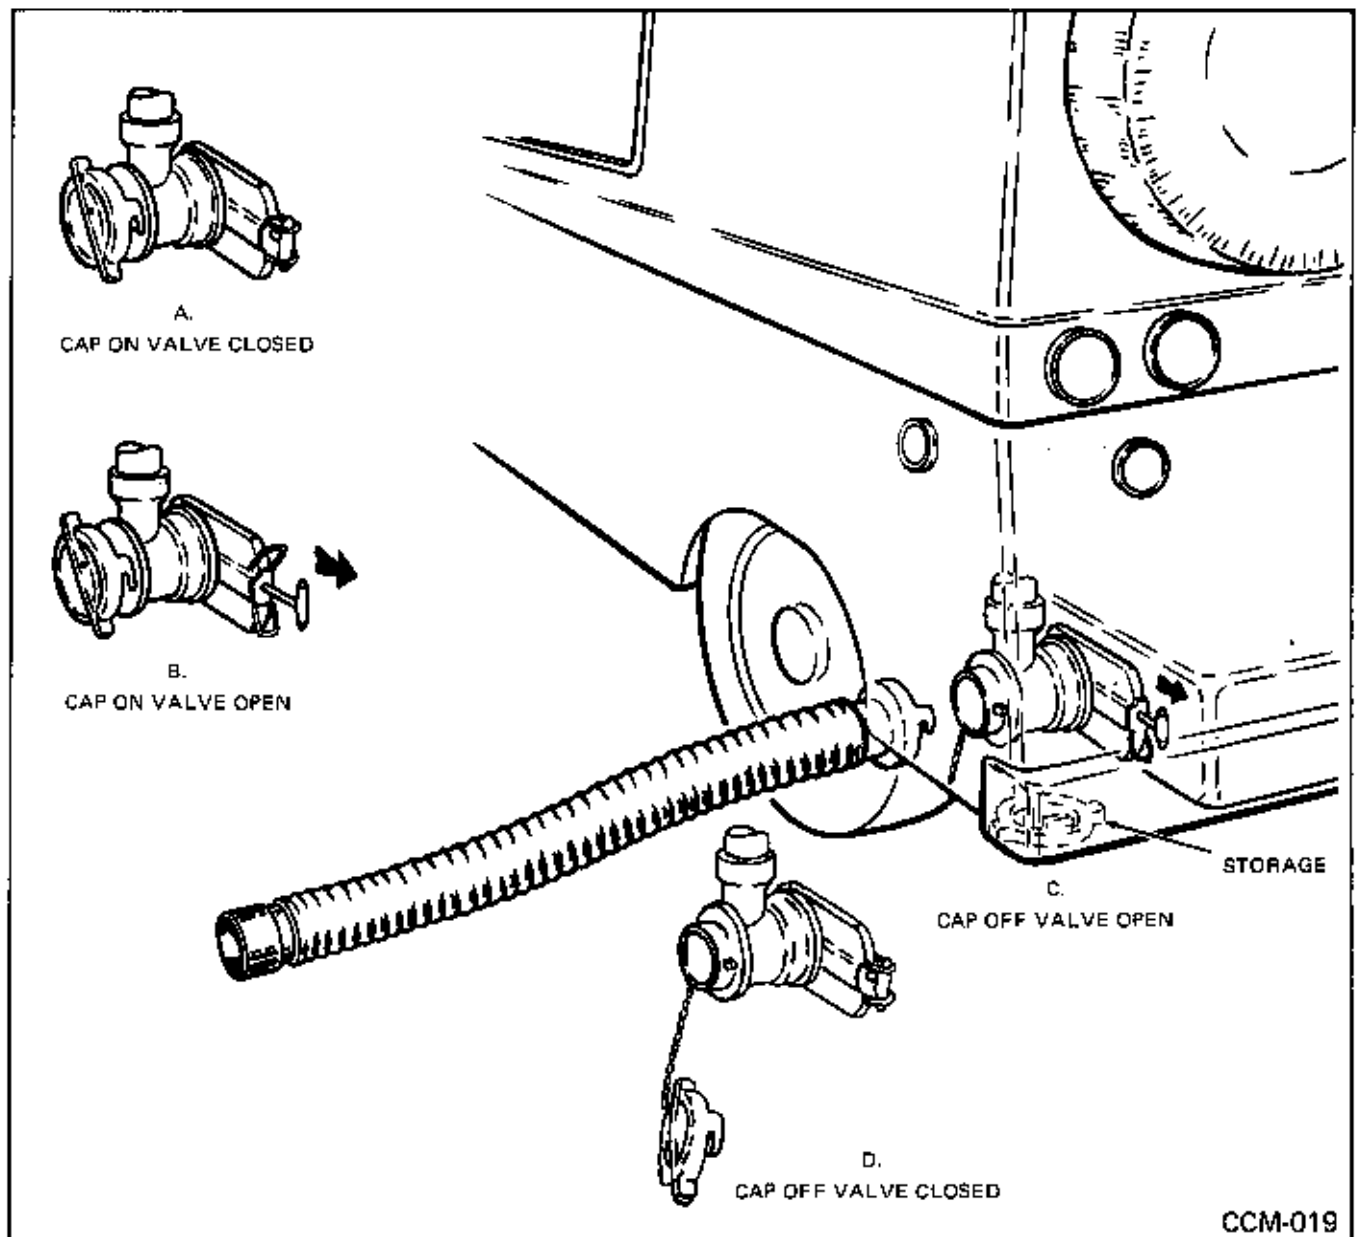

Fig. 20
To make use of this system, close drain valve and remove cap as shown in View D, Fig. 20. In this position only waste water from the kitchen and bathroom sinks will flow through the drain; other connections will flow to, and remain in, the holding tank.
Capacity of the holding tank is 30 gallons. When traveling, the tank drain cap should be in place and the valve closed, as shown in View A, Fig. 20.
The drainage system is a by-pass system and, on the road, should be operated with cap and valve closed. (View A, Fig. 20)
of drain pipes. On back roads you may travel with cap off and valve closed. Cap will store on underside of body corner. (Fig. 20)
Do not intermix drain water with sewage, such as View B with cap on and valve open. (Fig. 20) This can result in obnoxious fumes from drain system, and there would be much embarrassment when you removed the cap to connect the drain hose. Also, this is frowned on in some states.
2. Be sure holding tank drain valve is closed. (View A, Fig. 20)